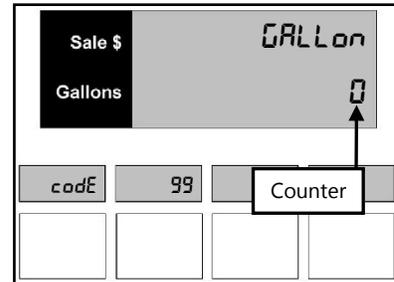

Figure 99.1 – Volume Counter
- The **0** (if new) or any other number that appears in the second row under the 1 is a counter. It tracks the number of times this setting has been changed as shown in *Figure 99.1*.